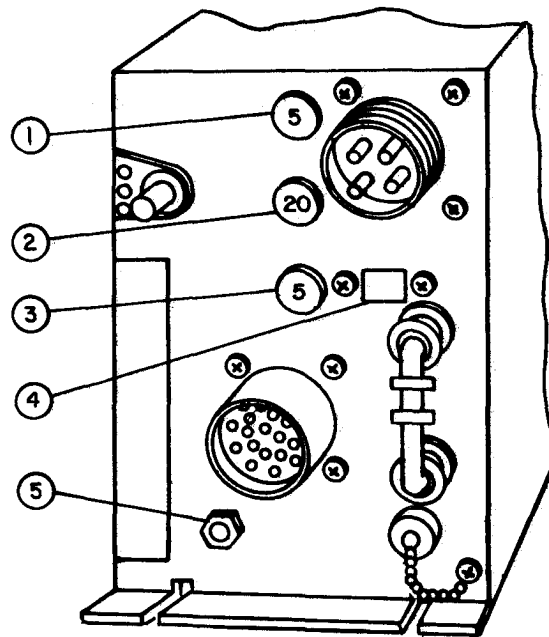

Figure 2-4. Amplifier-Coupler Controls
Refer to figure 2-4. Located on the front of the antenna coupler are three circuit breakers. Circuit breaker (1) is a 5 A circuit breaker which controls power to the control-display. Circuit breaker (2) is a 20 A circuit breaker which controls power to the amplifier-coupler. Circuit breaker (3) is a 5 A circuit breaker which controls power to the receiver-transmitter. Circuit breakers should remain in closed position (pressed in) to function properly.